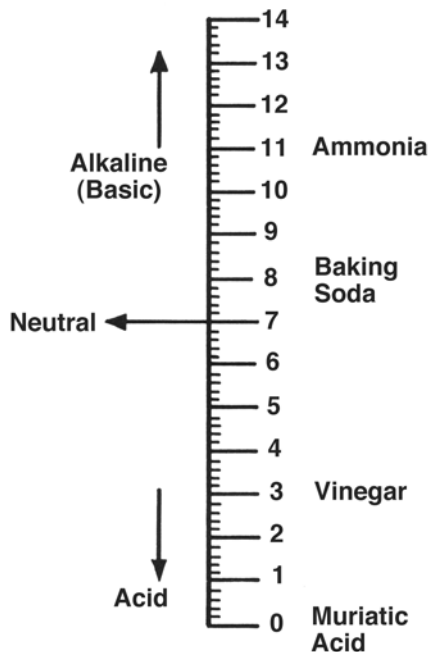

Figure 1. pH scale.
- Figure 1. pH Scale
Acidity is indicated by the pH of water on a scale of 0 to 14 (Figure 1). Neutral water has a pH of 7.0. Less than 7 is acid and greater than 7 is basic or alkaline. The ideal pH for domestic water is in the range of 6.8 to 7.5. The pH scale is logarithmic, and a difference of 1.0 indicates a factor of 10. For example, a pH of 5 is 10 times as acid as a pH of 6.0.